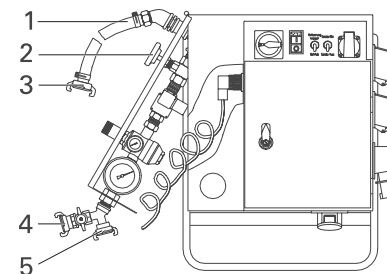

Fig. 10: Water fitting
- Connect the external water hose to the water fitting using the GEKA coupling (fig. 10, 5). Turn on the water supply.
- If necessary, adjust the flow of water with the fine-control valve (fig. 10, 2)
- Connect the short water hose (2 m, fig. 10, 1) from the water fitting on the switch cabinet to the GEKA coupling on the continuous-flow mixer.
- Connect the external water hose to the GEKA coupling of the water inlet (fig. 10,5)
- The second connection (fig. 10,4) can be used for a separate water hose (e.g. for cleaning)